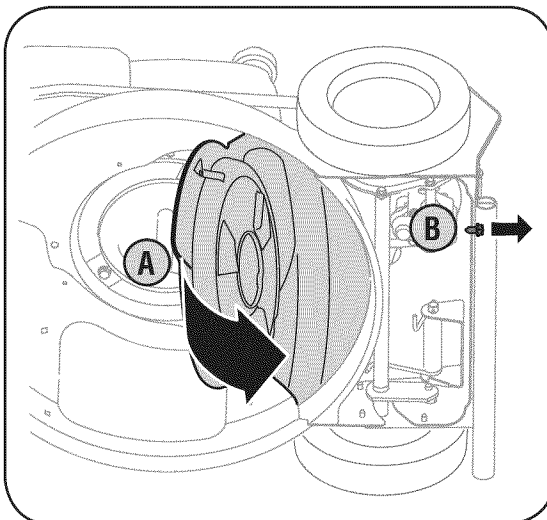

Figure 5-5: Peel back baffle (A) and loosen screw holding transmission to deck. (B)
6. Lift baffle towards the rear of the mower. Remove the hex bolt that holds the transmission to the mower deck from the rear of unit, Figure 5-5.